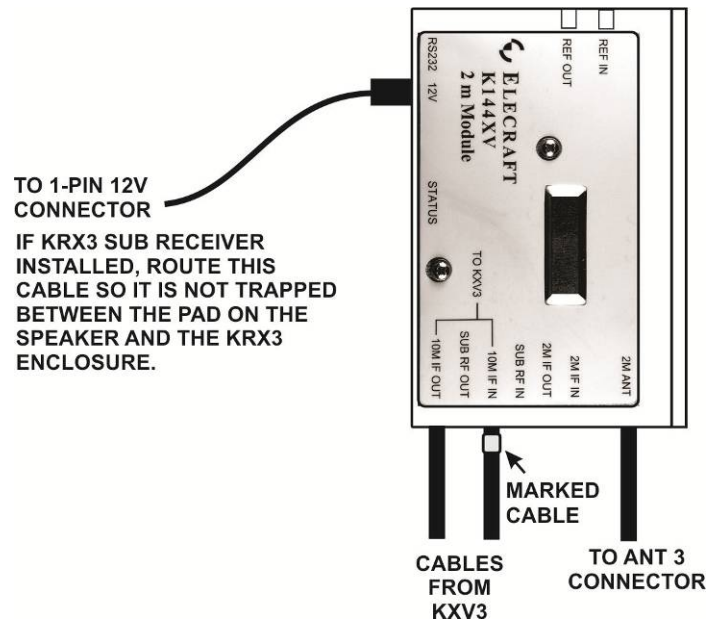

Figure 15, Basic K144XV Cabling (No K144XV Ref Lock).
- If you have a K144XV without the optional K144XV Ref Lock installed, see Figure 15.